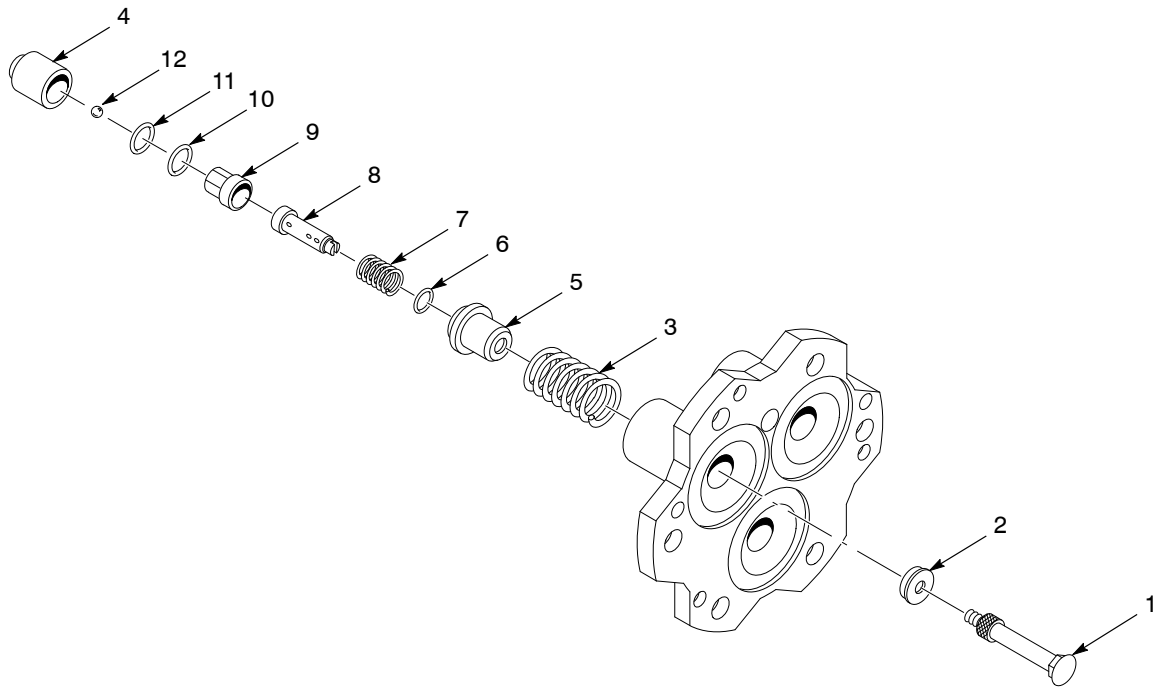

Figure 10 Rebuilding the Pistons
1. See Figure 10. Screw the plunger guide lifter (1) into the plunger (2).
3. Remove the piston return spring (3) by pulling it outward and turning it counterclockwise.
4. Remove these parts from the piston case (4):
- spring retainer (5)
- valve cylinder O-ring (6)
- valve cylinder spring (7)
- plunger stem (8)
- valve cylinder (9)
- O-ring (10)
- retaining washer (11)
1. See Figure 10. Place the ball (12) into the piston case (4). Make sure the ball seats into the hole at the bottom of the case.
2. Insert the retaining washer (11) and O-ring (10) into the piston case.
3. Insert the plunger stem (8) into the valve cylinder (9).
4. Slide the valve cylinder spring (7) over the plunger stem.
5. Insert the valve cylinder O-ring (6) into the spring retainer (5).
6. Slide the valve cylinder assembly into the spring retainer. Slide this assembly into the piston case (4).
7. Insert the piston return spring (3), wide end first, into the piston case. Turn the spring until it bottoms out.